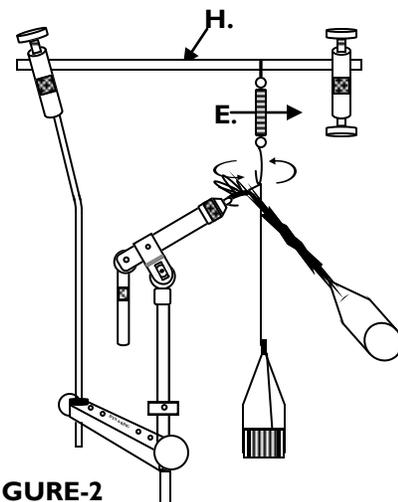

FIGURE-2
To tie a **Parachute Fly (Figure-2)**, position the **Straight 1/4" Rod (H)** over the hook. Align the **Hackle Hook & Spring (E)** over the hook. With the fly ready for the parachute, hang the loop of the thread over the hanger and secure the hook with suitable tension. The parachute is now formed by tying the hackle & winding around the base of the thread loop. When fly is completed, cement and trim thread loop.